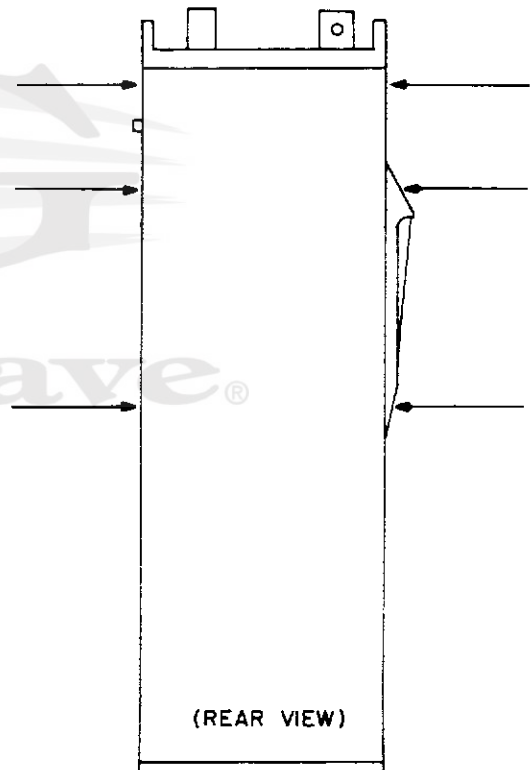

Figure 2-1. Chassis Removal
3. Remove six chassis-mounting screws shown in Figure 2-1 below.